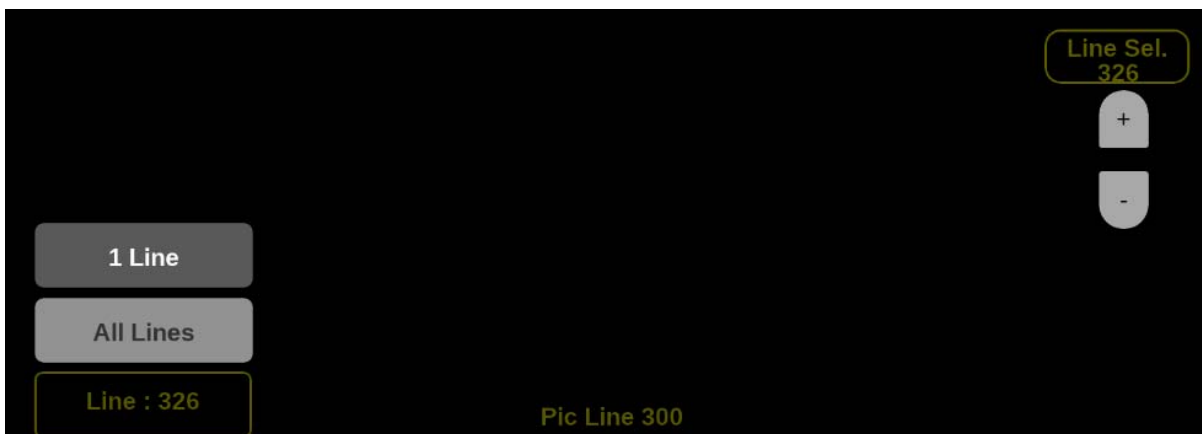

Figure 79: Waveform on-screen tools – Line Selects
1. Select the **Lines** button at the bottom of the application. (See Figure 79.)